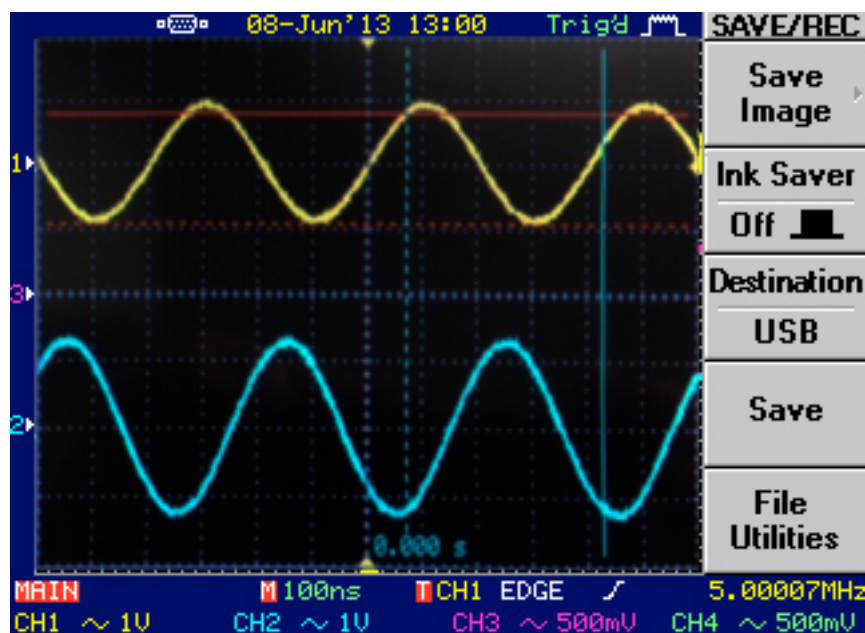

Figure 14 – The yellow signal shown in this figure is the output of the function generator and the blue signal is the signal from the DAC of the FMC-150 board.
11. Activate channels one and two on the oscilloscope, if not done so already, and verify that a sine wave at the previously set frequency of 5MHz is displayed on both channels. (As shown in Figure 14)
Note: Using the BNC splitter with transmission lines at differing lengths is far from ideal. The sine waves displayed will not be identical but will be similar (As shown in Figure 14). The output from the DAC will be out of phase with respect to the function generator's output and have different amplitudes, which should be within about 30% of the function generator's measured reference signal, but the frequency and form should be very similar.